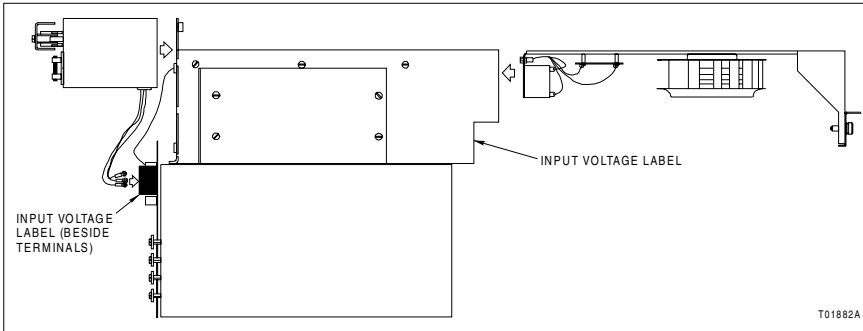

Figure 3-3. Fan Assembly and Power Entry Circuit Breaker or Switch Installation (Side View)
Figures 3-3 and 3-4 show the fan assembly and power entry circuit breaker or switch installation. To install a fan assembly:
5. Engage the rails at the top of the fan assembly with the rails at the top of the fan chassis and insert the fan assembly into the fan chassis (Fig. 3-3).
Mount the appropriate power entry circuit breaker or switch to the back of the fan chassis (Figs. 3-3 and 3-4). Mount one power entry circuit breaker or switch for N, N+1, or N+x redundancy. For 2N redundancy, mount two power entry units. The three lead wires that connect filtered input power to the power module chassis backplane should hang down from the power entry circuit breaker or switch.
**NOTE:** The power entry circuit breaker or switch mounts over the fan power and status cable (Figs. 3-3 and 3-4). The lower side of the power entry circuit breaker or switch has been designed to protect the cable insulation. Make sure the fan cable is routed from connector to connector via the lower side of the power entry circuit breaker or switch.